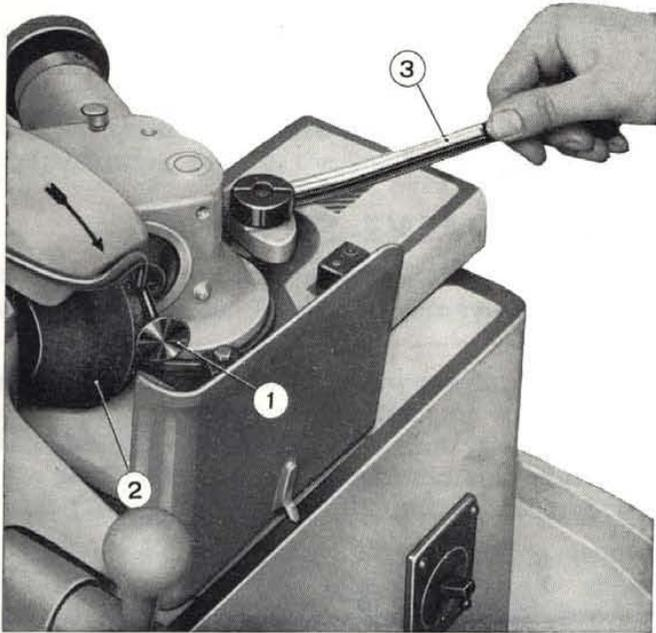

Fig. 101 - Grinding valve face.
- arrange the valve as shown in fig. 101;